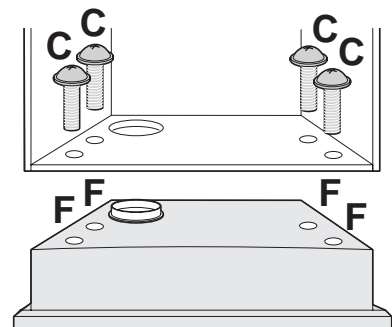

Fig. 5
- From inside the cupboard, insert the four 4.2x35 screws **C** (Fig.5) supplied with the unit and screw them onto nuts **F** (Fig.5).